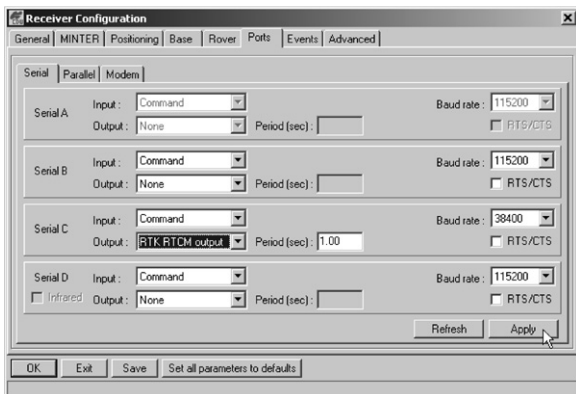

Figure 3-12. Base Configuration – Ports
12. Select the **Ports** tab and set the following port parameters (Figure 3-12 on page 3-20).